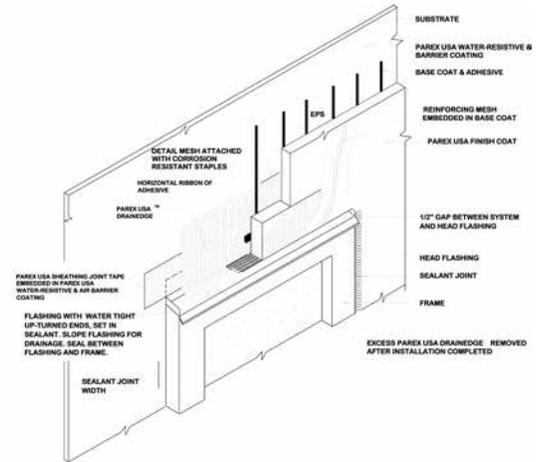

Fig. 6.1
**NOTE:** Cap flashing is a part of self-flashing (flange-type) windows, doors, etc. so those items must be installed prior to the installation of the ParexUSA 369 DrainEdge and 356 Short Detail Mesh. Other types of commercial windows, doors and AC units may need to have metal cap flashing fabricated and installed above them to provide adequate protection. The final position of the object in the opening is critical and must be determined prior to the cap flashing installation. This is typically done by others but does affect the placement of your ParexUSA 369 DrainEdge and 356 Short Detail Mesh. Shop drawings, communication and coordination are necessary to accomplish this detail, as it will vary from job to job. (See ParexUSA CI Systems Details for options). Seal the top of the cap flashing with ParexUSA Sheathing Tape embedded in WeatherSeal Spray & Roll-On or ParexUSA Flashing Membrane. (Fig. 6.1).
Install ParexUSA 369 DrainEdge 1/4 in. (6mm) beyond both ends of the head, and Detail Mesh (1 in. (25mm) beyond both ends of the head of windows, doors, and AC units) above head of cap flashing. The ParexUSA 369 DrainEdge Strip is installed first with the third row of holes from the bottom at the corner of the cap flashing. This should be attached with corrosion resistant staples. 356 Short Detail Mesh is then installed over the ParexUSA 369 DrainEdge with corrosion resistant staples (Fig 6.1).
For Non-combustible construction, one ribbon or adhesive is installed horizontally as shown in Figure 6.1.